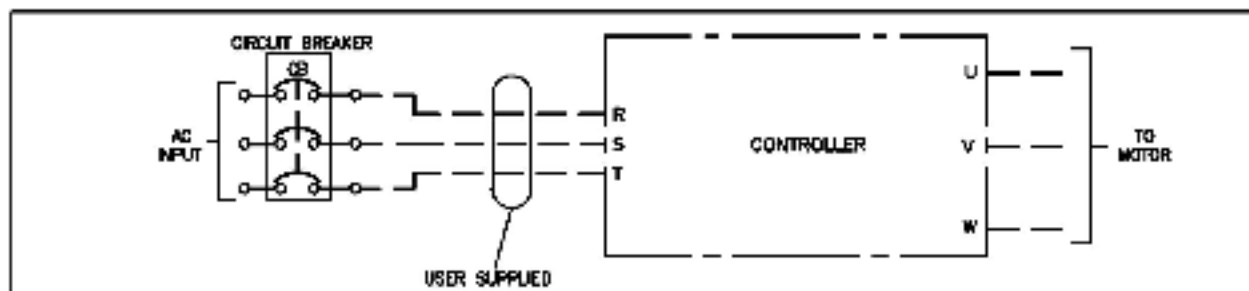

Figure 2. Circuit Breaker Connection Diagram (1–20 HP) without Expanded Cabinet.
6. Connect the A-C input leads to the line side of the circuit breaker. Refer to Figure 2 for wiring detail.
7. Using a wire size selected in accordance with all applicable codes, connect the load side of the circuit breaker to terminals R, S, and T on the controller. Refer to Figure 2 for wiring detail. Refer to Table 3 for wire terminal tightening torques.